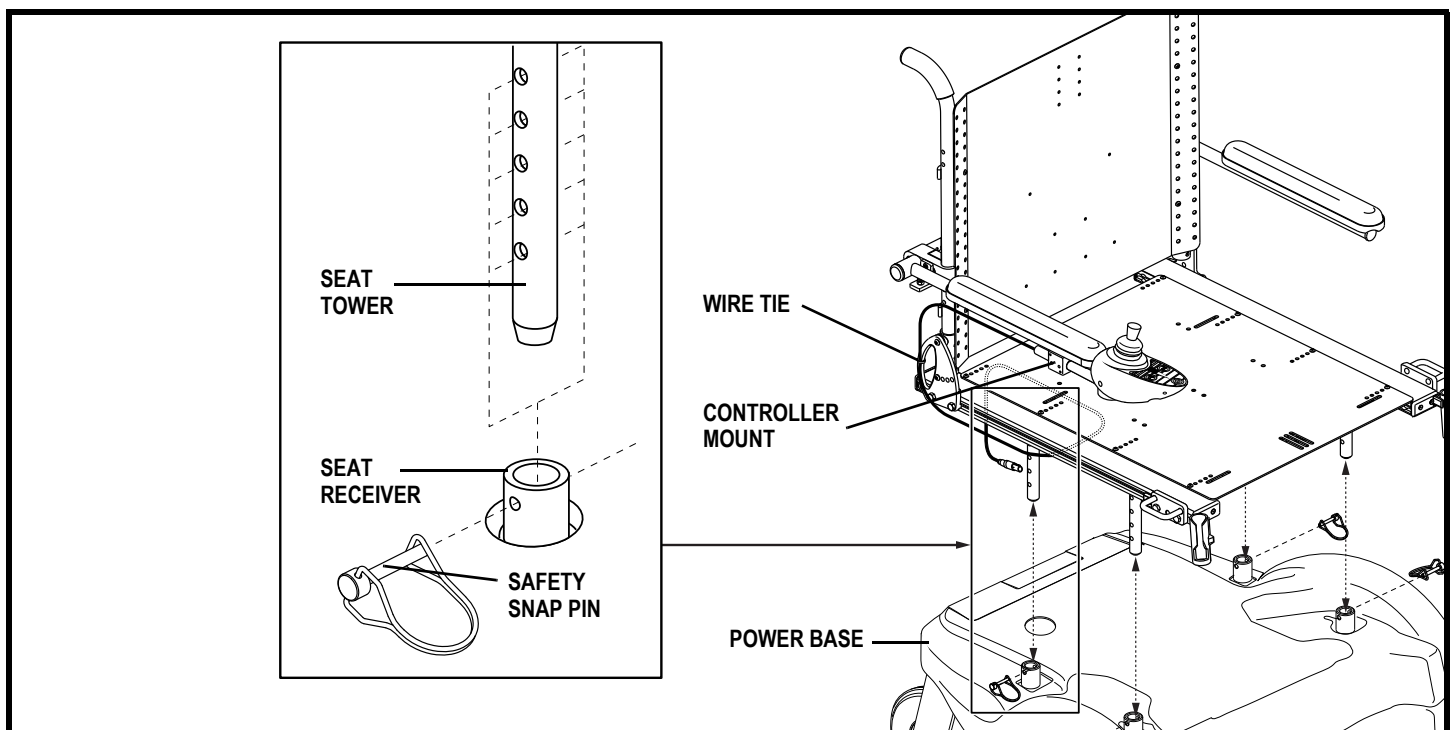

Figure 10. Seat Installation/Removal (Typical)
3. Align each seat tower with the corresponding seat receiver. **See figure 10.**
7. Loosen the setscrews on the controller mount. **See figures 10 and 14.**
11. Use a wire tie to secure the controller harness to the armrest. **See figure 10.**
3. Remove the safety snap pins from the seat receivers. See figure 10.